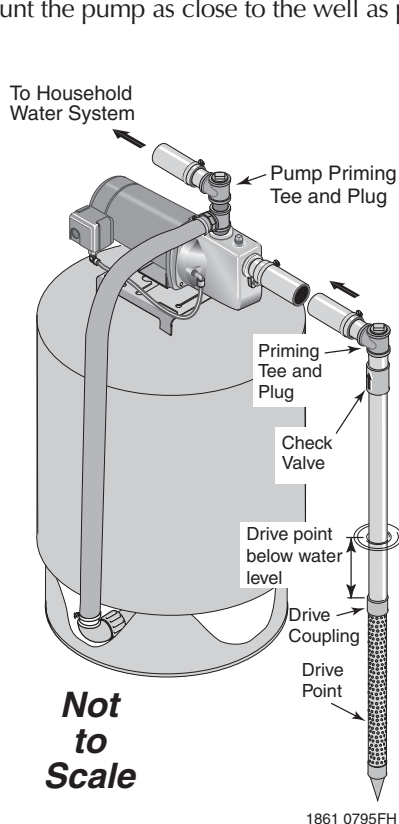

Figure 1: Driven Point Installation
WELL POINT (DRIVEN POINT) INSTALLATION (FIGURE 1)
- Step 3. Use the fewest possible fittings (especially elbows) when connecting the pipe from the well point to the pump suction port. The suction pipe should be at least as large as the suction port on the pump (include a check valve if your pump is not equipped with one – see Figure 1). Support the pipe so that there are no dips or sags in the pipe, so it doesn't strain the pump body, and so that it slopes slightly upward from the well to the pump (high spots can cause air pockets which can air lock the pump). Seal the suction pipe joints with PTFE pipe thread sealant tape. Joints must be air- and water-tight. *If the suction pipe can suck air, the pump cannot pull water from the well.* If one well point does not supply enough water, consider connecting two or three well points to one suction pipe.